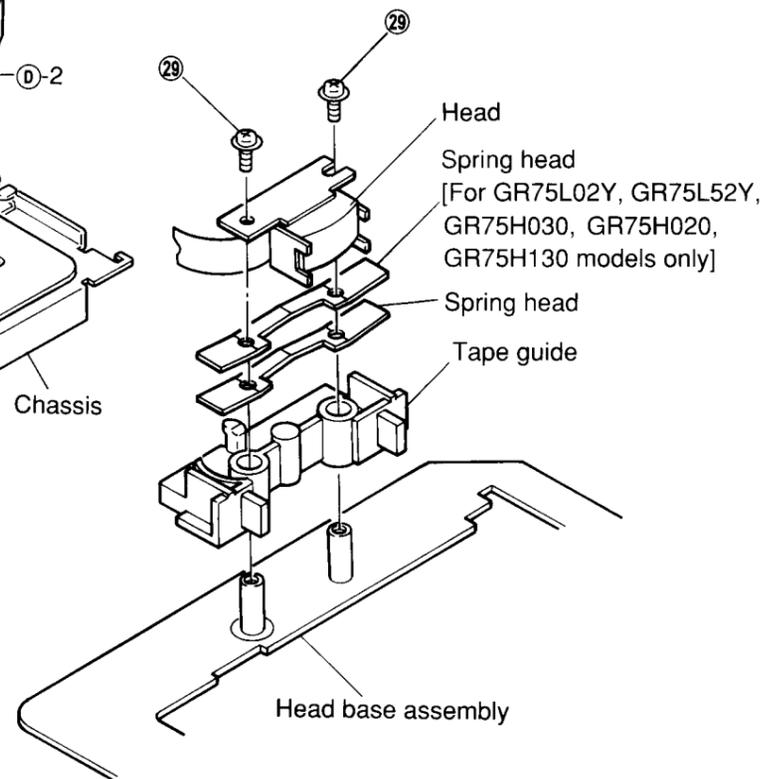

Figure 21
- (1) After removing the pinch roller spring, remove two screws ㉙ as shown in Figure 21.